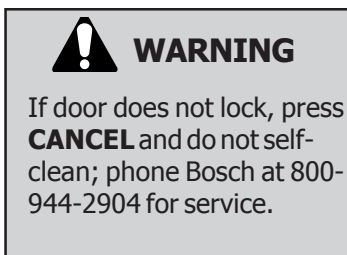

Figure 1
3. The default cleaning time is 4 hours. To change cleaning time, **turn knob** to change number of hours. Otherwise, continue to **step 4** (See Fig. 1).
3. The default cleaning time is 4 hours. To change cleaning time, **turn knob** to change number of hours. Otherwise, continue to **step 4** (See Figure 1).